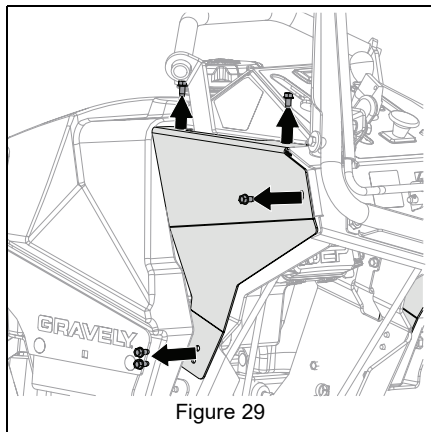

Figure 29
1. Remove five tapping screws from each dashboard side panel and remove panels. Retain all parts for reinstallation. See Figure 29.